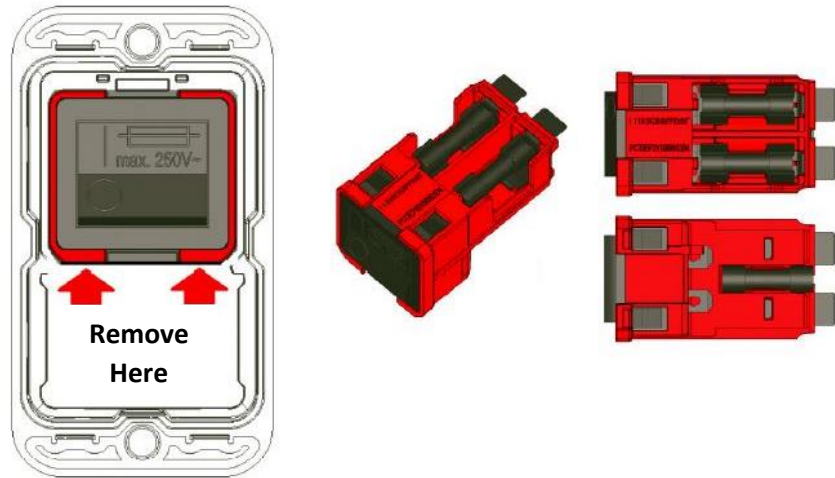

Figure 19
2.) Place the end of a 1/8" flat head screwdriver into one of the holes in bottom of the fuse holder. Pry the fuse holder out of the power entry module. See Figure 19.